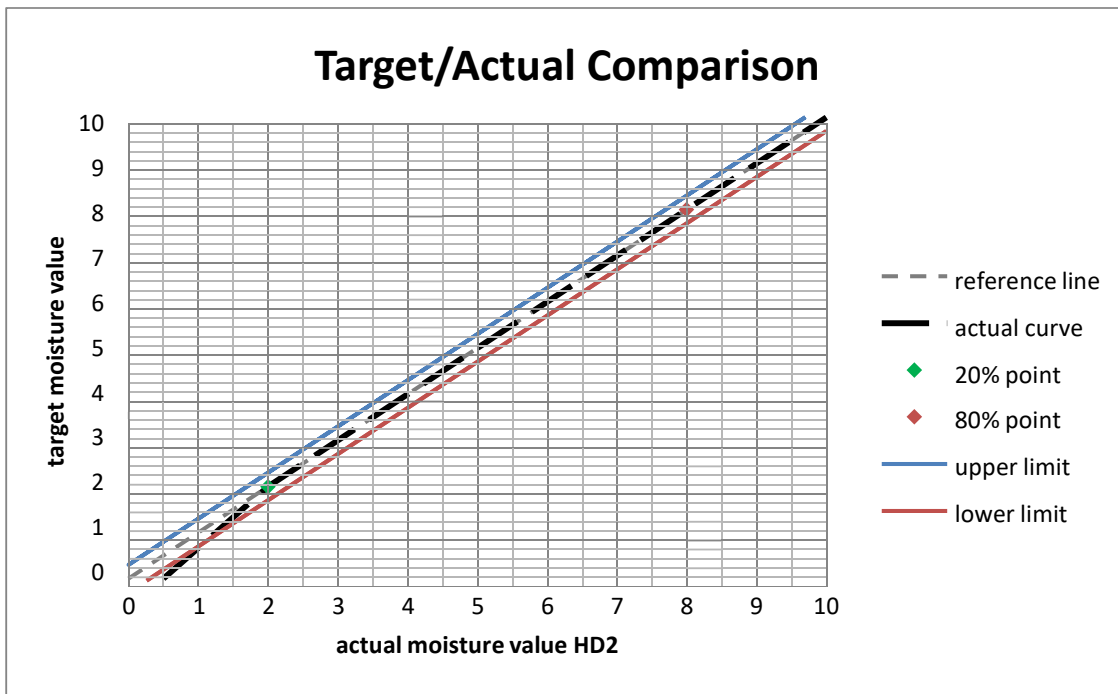

Fig2: The diagram shows a small deviation in the drier moisture range.
**Notes:** When working with very dry materials with measurement ranges lower 15% of the maximum moisture saturation, the measurement results are being distorted in a small amount in the lower range, Fig 2. This distortion is caused from a very low internal friction of the aggregates as the moisture tends to 0%, therefore causing the materials density to become a little higher. This small distortion can be corrected by using a simple empirical formula: